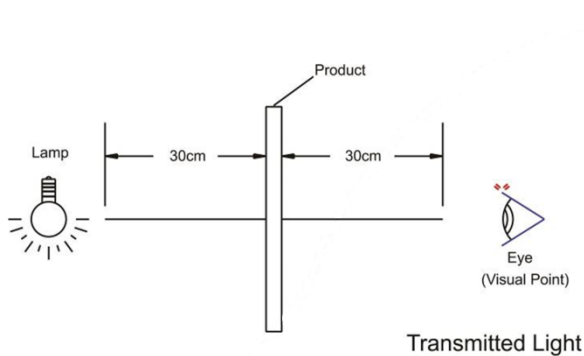
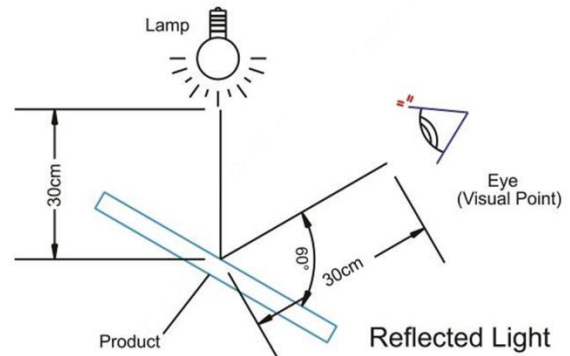

Figure 4
Figure 5
(1) 18W(1000±500Lux) fluorescent luminant lamp is used for appearance inspection. Detail settings are shown in (Figure 4) and (Figure 5).
[(1) 檢測使用之燈光為 18W(1000±500Lux)白熾燈光·詳細的擺設方式·請參考圖(Figure 4), (Figure 5)]
(2) Minor impurities outside active area are acceptable unless their existence affect electrical functions.